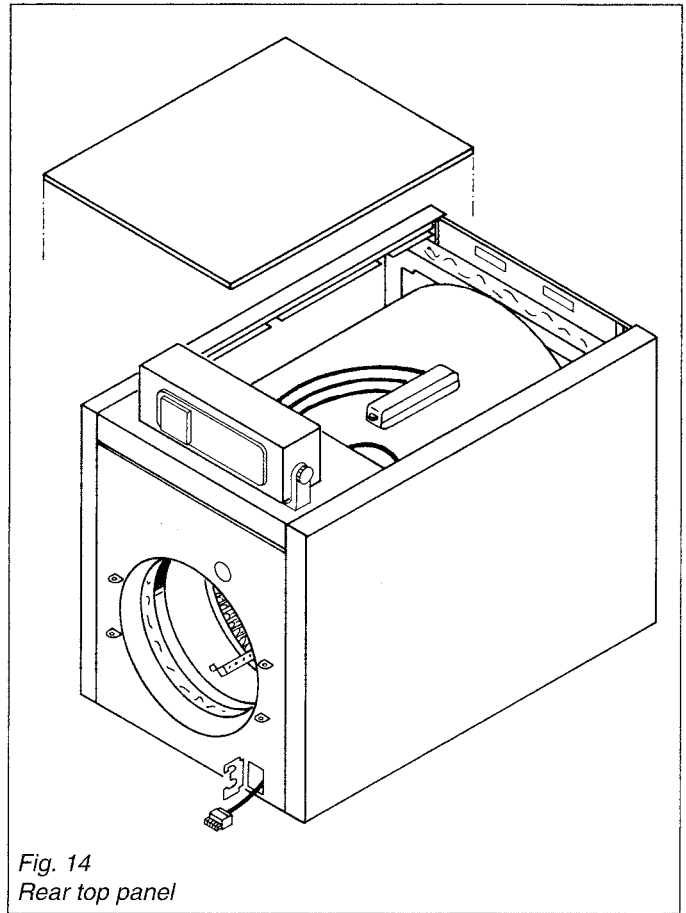

Fig. 14
9. Attach rear top panel (see Fig. 14).